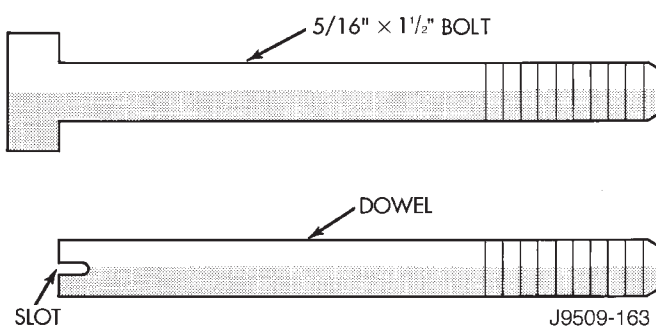

Fig. 33 Fabrication of Alignment Dowels
- (1) Clean the block and pan gasket surfaces.
- (2) Trim or remove excess sealant film in the rear main cap oil pan gasket groove. **DO NOT remove the sealant inside the rear main cap slots.**
- (3) If present, trim excess sealant from inside the engine.
- (4) Fabricate 4 alignment dowels from 5/16 x 1 1/2 inch bolts. Cut the head off the bolts and cut a slot into the top of the dowel. This will allow easier installation and removal with a screwdriver (Fig. 33).